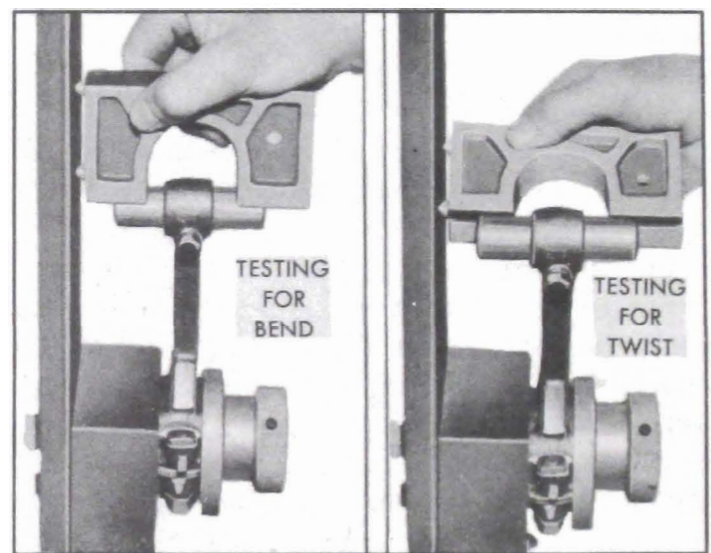

Figure 2-36—Checking Connecting Rod Alignment
1. Connecting rods may be sprung out of alignment in shipping or handling; therefore, they must always be checked before pistons are installed. Clamp a new piston pin in upper end of connecting rod and test the rod for twist and bend, using an accurate rod aligning fixture. See figure 2-36. Bend or twist the rod if necessary, to secure proper alignment.